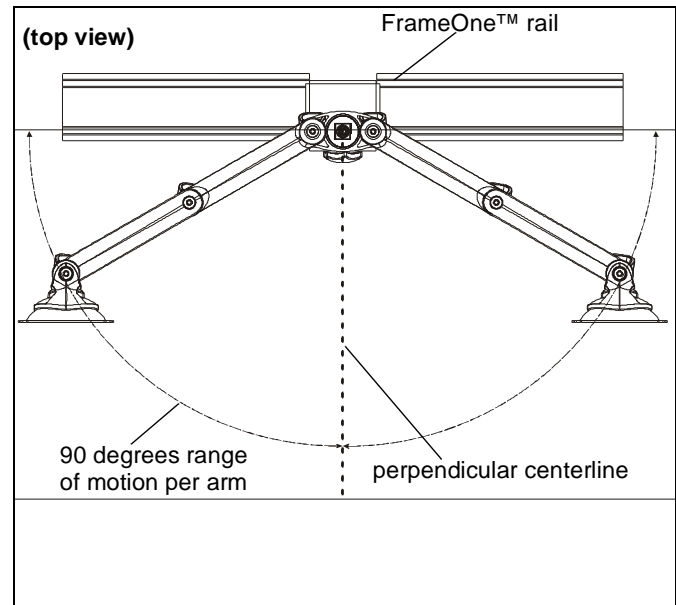

Figure 6
1. Adjust arm angles as desired within a 90 degree range from the edge of desk or wall and a perpendicular centerline of mount. (See Figure 6)